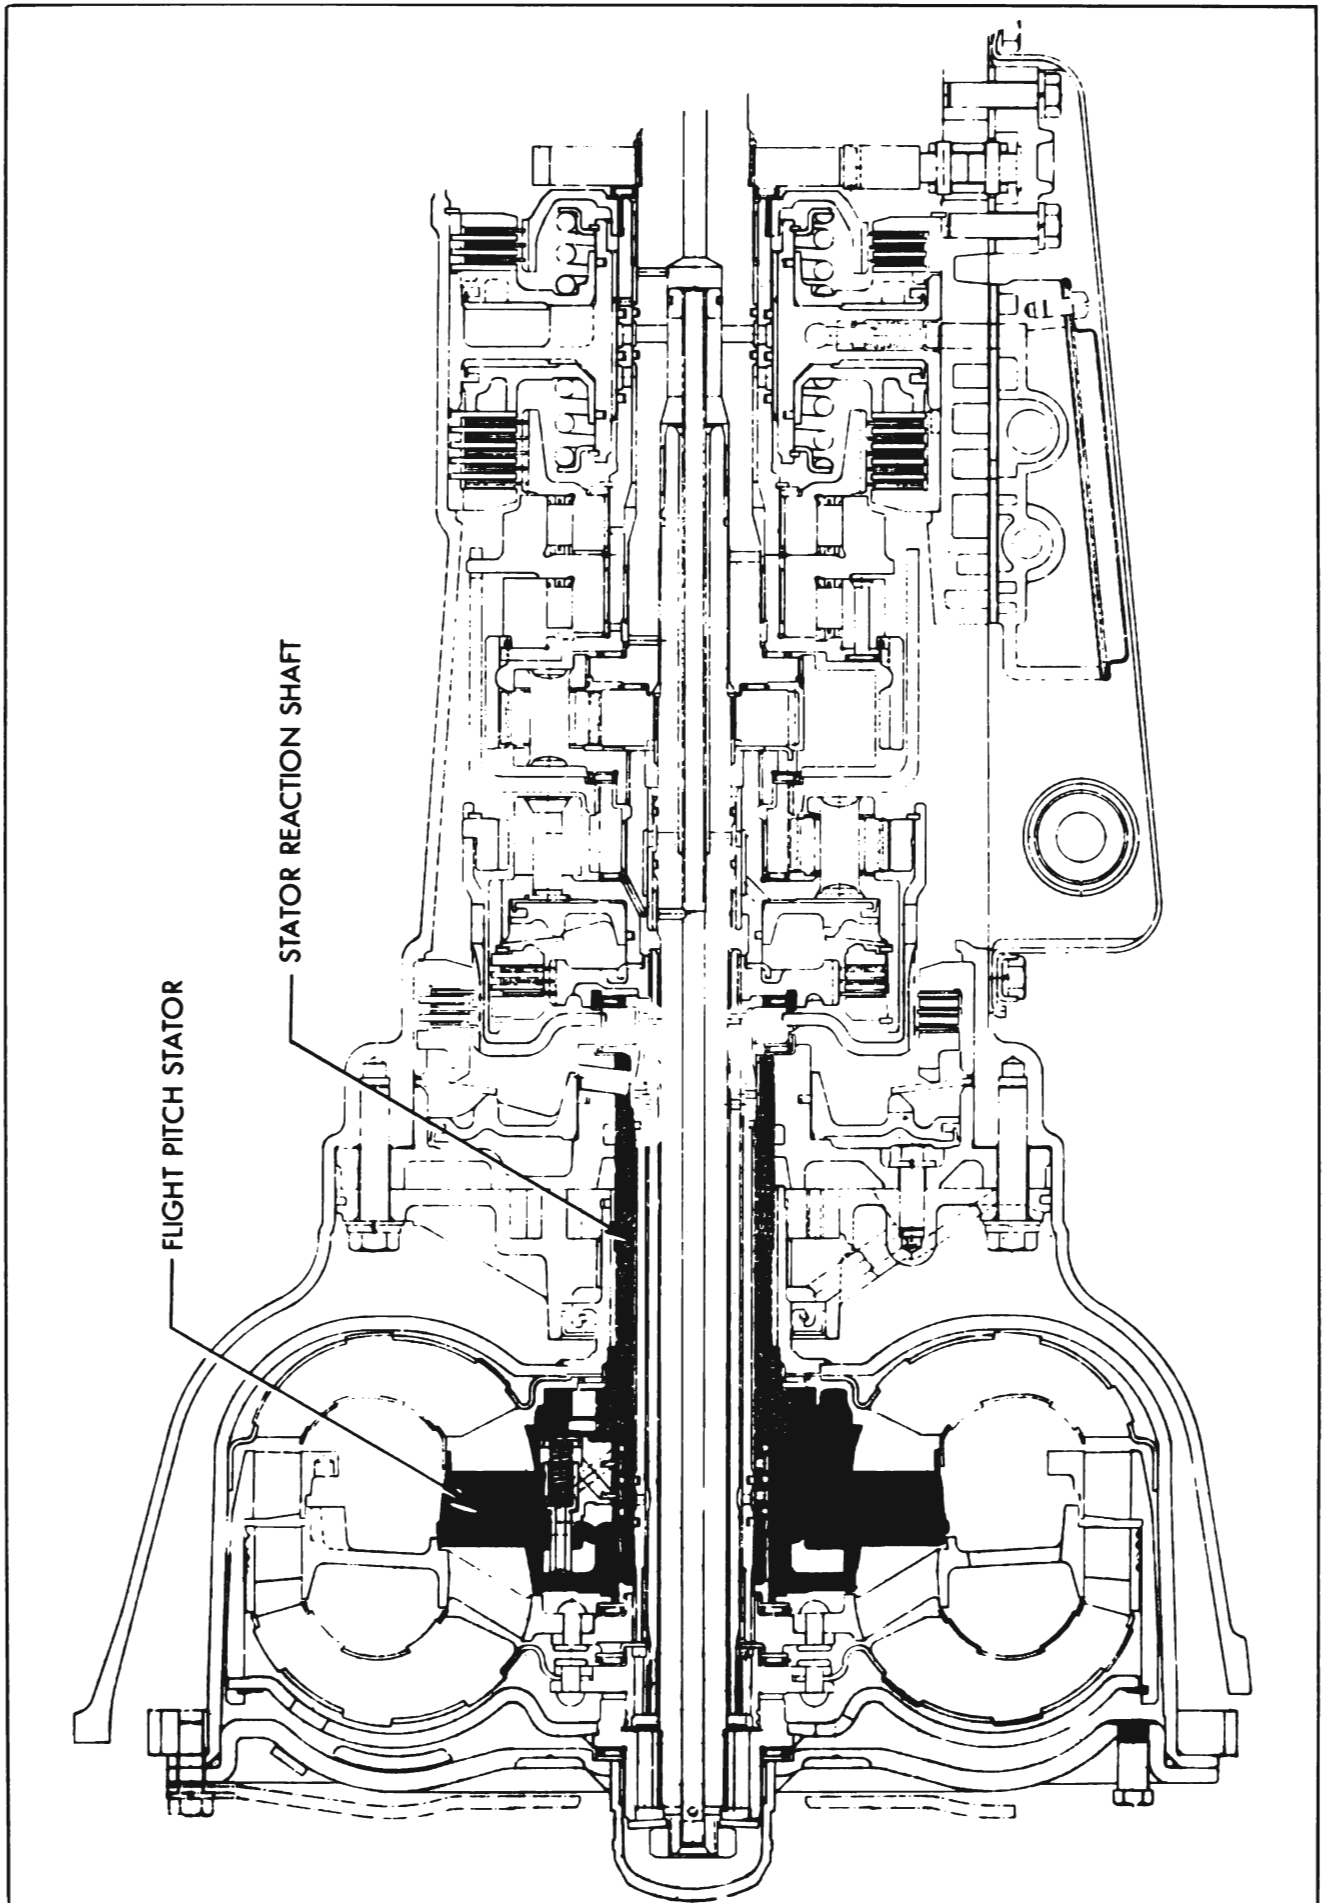

Figure 6—Flight Pitch Stator, Reaction Shaft and Free Wheel Clutch
4. A Flight Pitch stator, stator reaction shaft and free wheel clutch. See Figure 6.